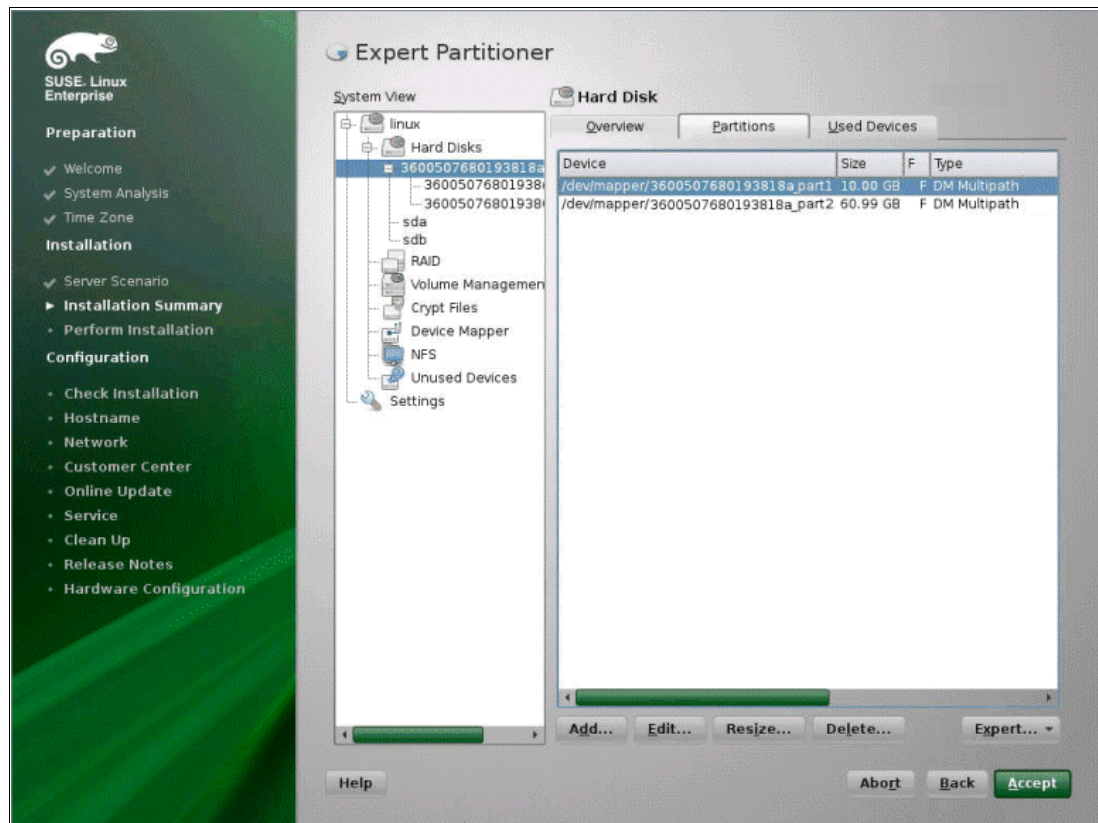

Figure 5-104 Multipath added
12. At the bottom of the **Partitions** tab, click **Add**. In this example, a 10.00 GB primary partition was created for swap space. Click **Add** again to create a 60.99 GB primary partition for the root filesystem, as shown in Figure 5-104.